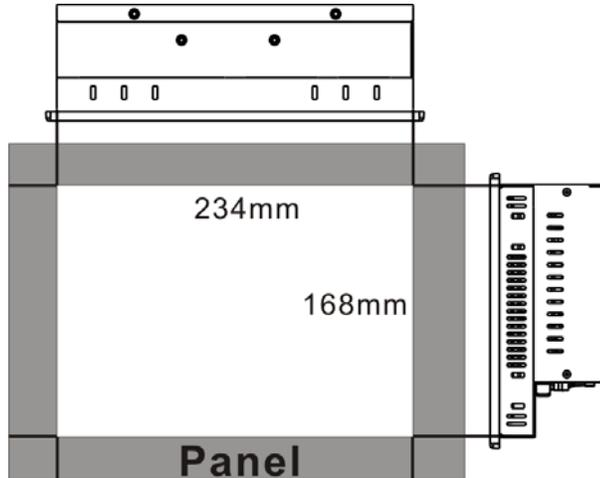
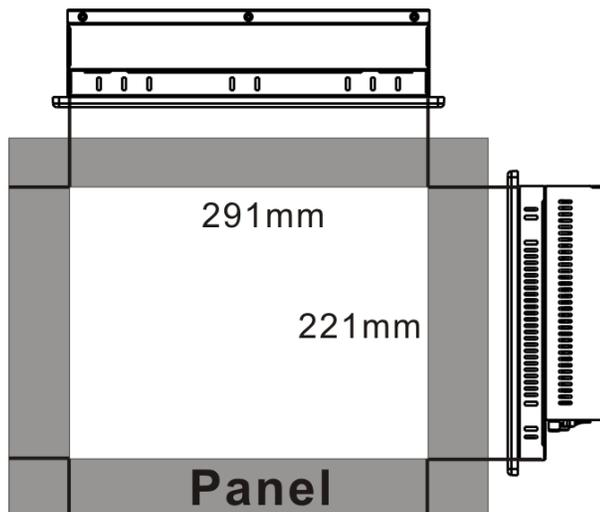

Figure 4-23: Suggested Panel Cut Out Size for PPC-3708A-N270
Figure 4-24: Suggested Panel Cut Out Size for PPC-3710A-N270
- Step 2:** Cut out a section from the panel that corresponds to the dimensions of the flat panel PC chassis. The panel section that is cut out must be smaller than the size of the aluminum frame that surrounds the TFT LCD panel but just large enough for the chassis to fit through. Refer to **Figure 4-23** and **Figure 4-24** for the suggested cut out size.